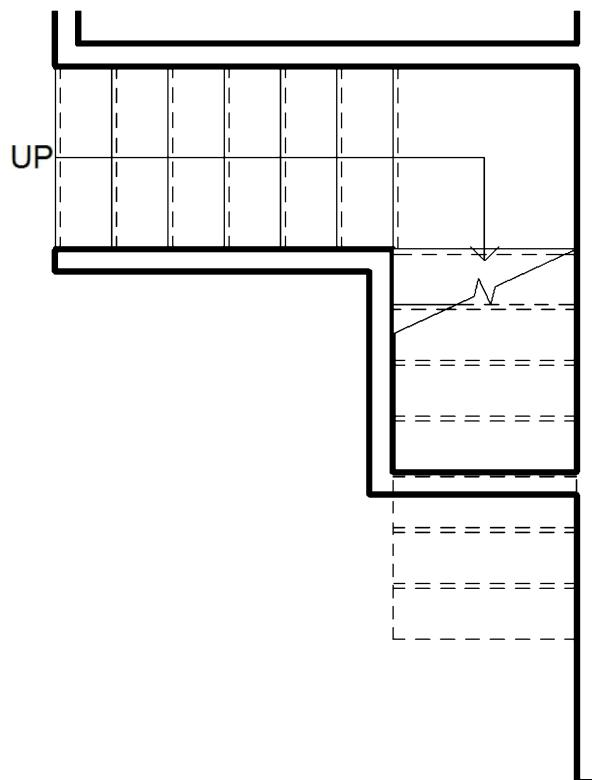

FIGURE 6-5.13 Three walls added at stairs
22. Using the **Wall** tool, draw the three interior walls as shown in **Figure 6-5.13**.